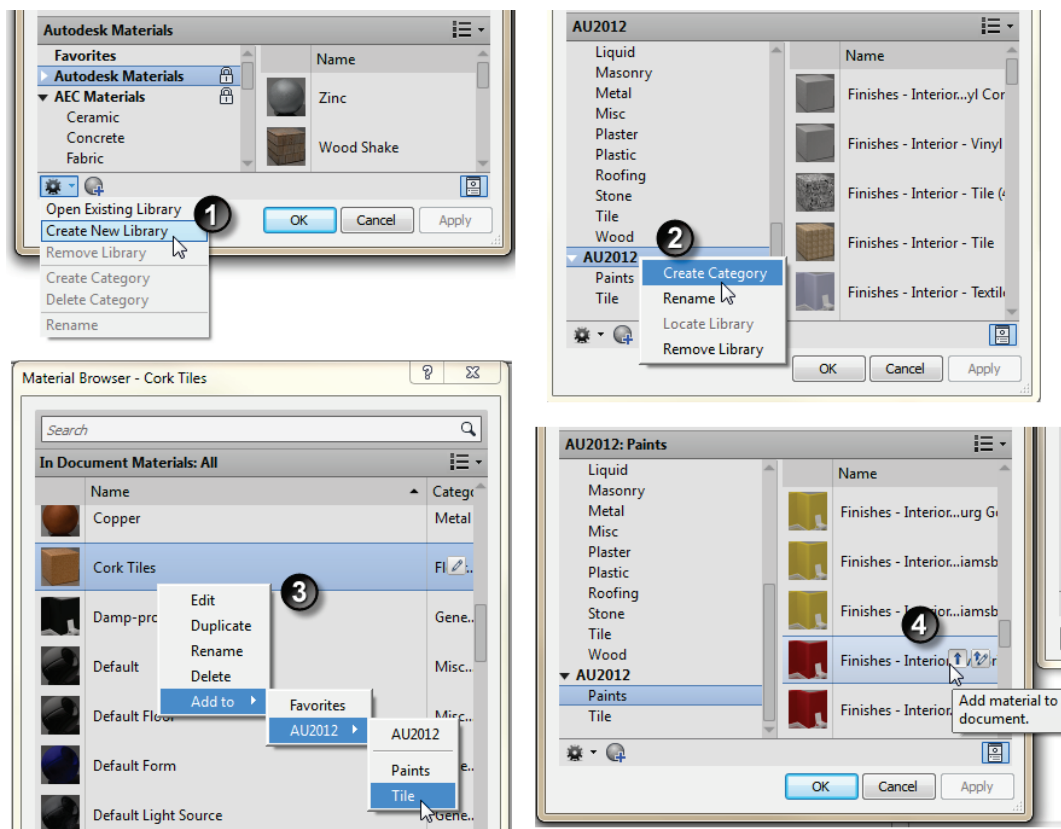

Figure 23
One of the most exciting new features in Revit 2013 is the ability to save and share material libraries. Material libraries are external files with an ADSKLIB extension. This file will contain all information required for each material. You can store the file anywhere you like such as a network server. The best part is that once you have it loaded in your Material Browser, it remains loaded until you unload and is therefore available to any Revit project file you open. You can share the file across the office or even send it to external recipients. ADSKLIB files are usable by Revit and several other Autodesk software packages. To create or access an existing library file, use the small gear icon at the bottom of the Material Browser as shown in item 1 of Figure 23.